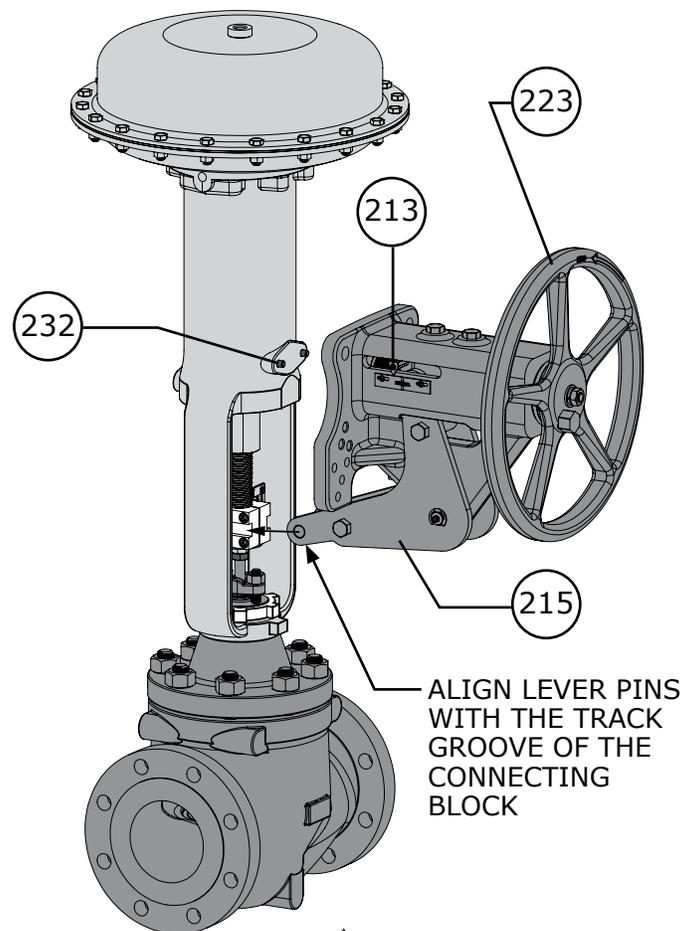

Figure 42 Side-Mounted Handwheel Mounting Positioning
- Using an appropriately rated lifting device (such as a crane) or a second person as help, hoist the side-mounted handwheel assembly into position. Gently slide the pins of the levers (Keys 214 & 215) into the grooves of the side-mounted handwheel connecting block (Key 230), the mounting plate of the side-mounted handwheel body should be kept parallel to the mounting pad of the actuator. The dowel pins (Key 232) will act as locator pins to properly position the side-mounted handwheel onto the actuator. The levers should move as little as possible while the dowel pins are positioned into the closest mounting holes of the side-mounted handwheel body. Refer to Figures 42 & 43.